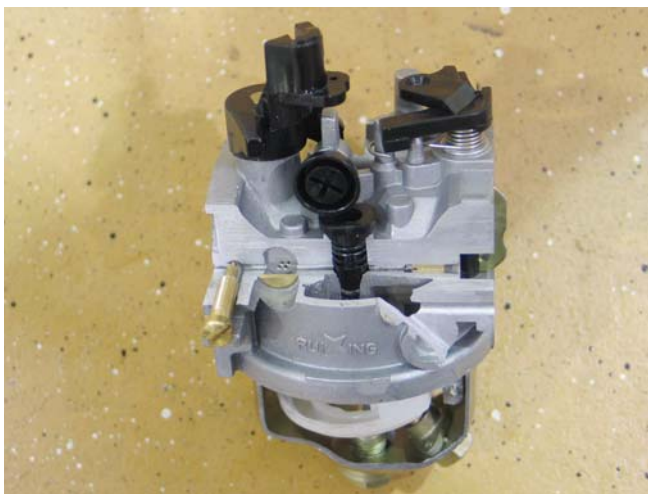

Figure 8.35
8.35. In cut-away view, the passage by the metering port is visible. See Figure 8.35.